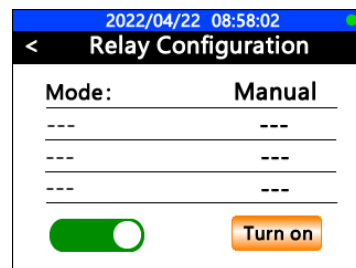

Figure 6. Turn on relay output
3. Move the cursor to the **Turn On** button and click **OK** to enable 24V output of the UC-50 relay terminal to power the MA-ETH (Figure 6).